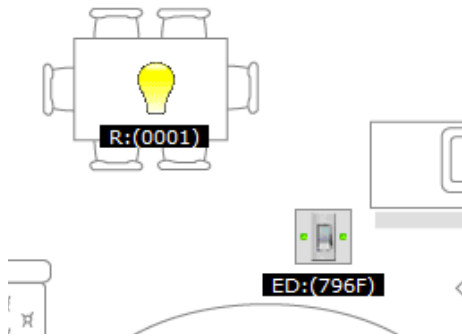

Figure 15. The On/Off Switch Sending “On” to the On/Off Light
4. Only for the 1321x-EVK and 13192-EVK: Press SW2 on the On/Off Switch board. This sends the On command to the light. Notice how LED2 on the On/Off Light board turns on and the On/Off Light icon on the ZeD GUI changes the light bulb state to on as shown in Figure 15. The small LEDs on the On/Off Switch icon also turn green which means that the Combined Interface also received the On command from the On/Off Switch and updated the icon.